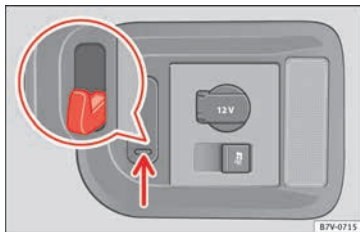

Fig. 173 In the luggage compartment: retaining hooks
On the right-hand side of the luggage compartment, there are folding retaining hooks **» Fig. 173** that can be used to secure light shopping bags.
- Press the retaining hooks down **» Fig. 173** (arrow) and fold them.